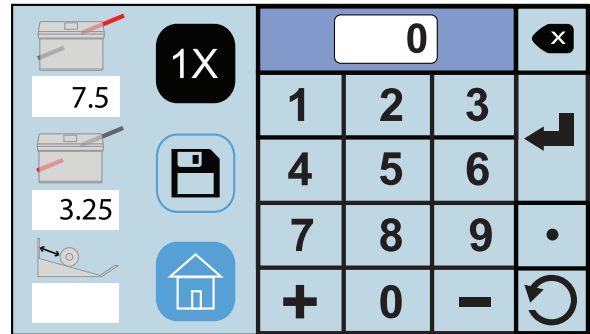
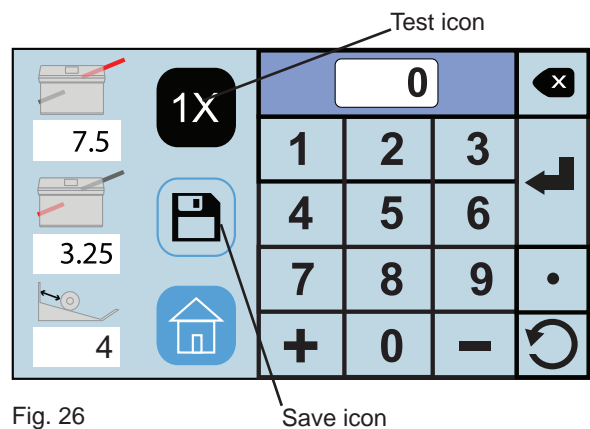

Fig. 25
Fig. 26
5. Next set the automatic outfeed stackers. There are 10 stacker positions available. Select the one that best matches the size of the folded document. Using the touch pad key in the stacker position (Fig. 25), key in 0 - 9 based on the chart below. Press the enter key  to enter the position. The white box under the icon will show the position entered. (Fig. 26).
4. With paper loaded in the feeder press the test icon  (Fig. 26) to check that the fold settings are correct. To adjust the settings repeat steps 1 - 3.